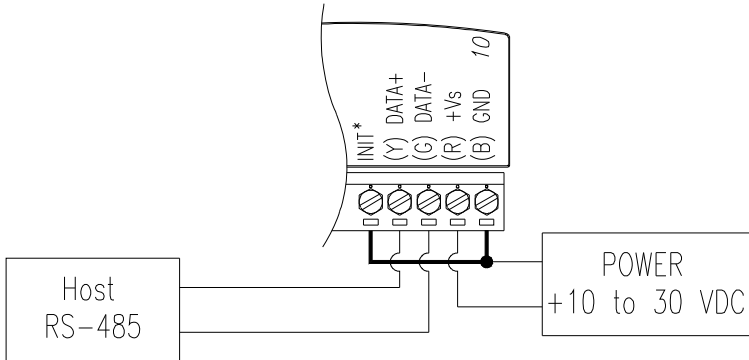
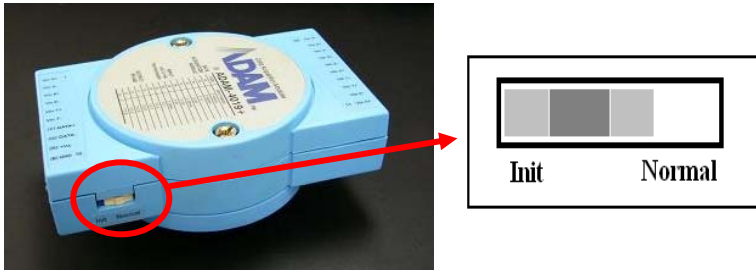

Figure 2-3 Grounding the INIT* Terminal
Figure 2-4 Set INIT switch to “Init”
Since there is no visual indication of a module's configuration status, it is impossible to know the baud rate, address and other settings just by looking at it. It might not be possible to establish communications with a module whose baud rate and address are unknown. To overcome this problem, most modules have an input terminal labeled INIT*. Booting the module while connecting the INIT* terminal with the module's GND terminal forces the configuration into a known state called the INIT* state. Besides, some newer modules have INIT switch which you can set "Init" or "Normal" (See Figure 2.4). If you set the switch to "Init", then it becomes INIT* state.
- Power the ADAM module on while shorting the INIT* and GND terminals (See Figure 2-3) or set the INIT switch to “Init” (See Figure 2-4)